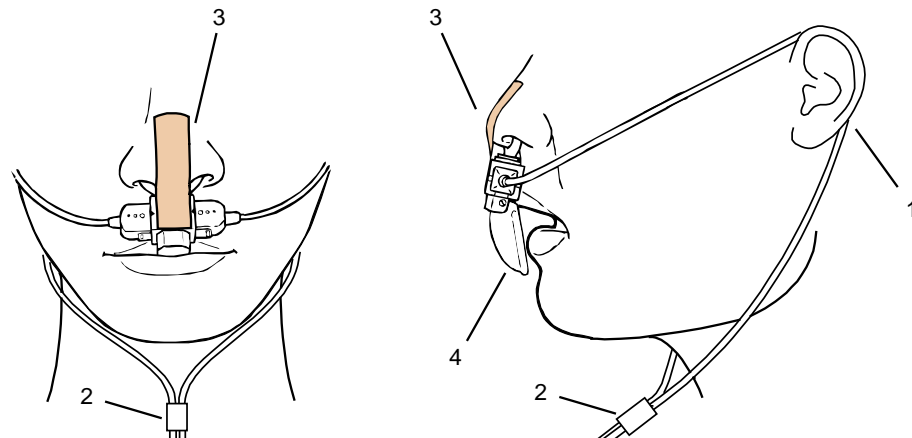

Fig. 6-25 Fitting the disposable CO2 nasal(/oral) adapter on the patient
- Position the sensor cable behind the ears (Fig. 6-25, item 1) and slide the fastening ring (Fig. 6-25, item 2) loosely towards the chin.
- Attach the disposable adapter to the nose with the adhesive tape provided for this purpose (Fig. 6-25, item 3).
- The oral breath collector (Fig. 6-25, item 4) must not be more than 10 mm away from the lower lip.